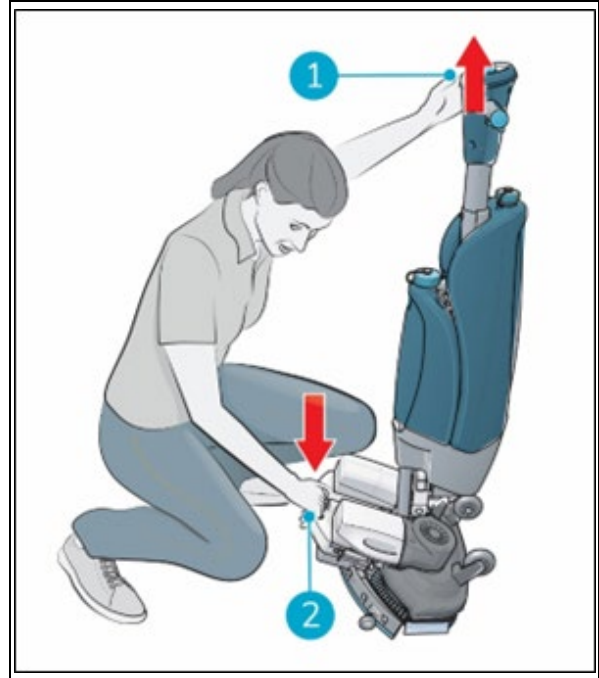

Figure 17
1. Crouch down while holding the scrub deck firmly with one hand (Figure 17, pos 2).
2. Push the handle forward with your other hand (Figure 17, pos 1).